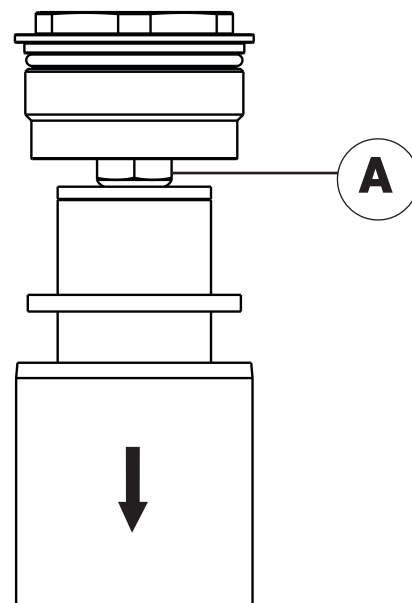

Fig. 3: Lower the upper tube and loosen the cinch nut (A) from the top cap.
2. Clamp the lower dropout in a vise and lower the upper tube (Fig. 3 arrow).